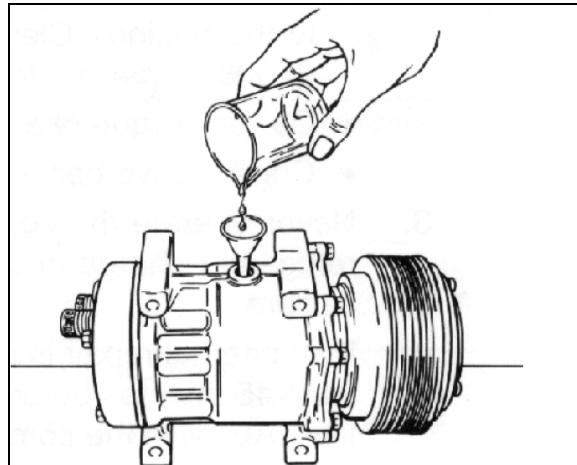

FIGURE 51
11. Add PAG oil as necessary to the container and pour back into the compressor (Figure 51) according to the following formula: